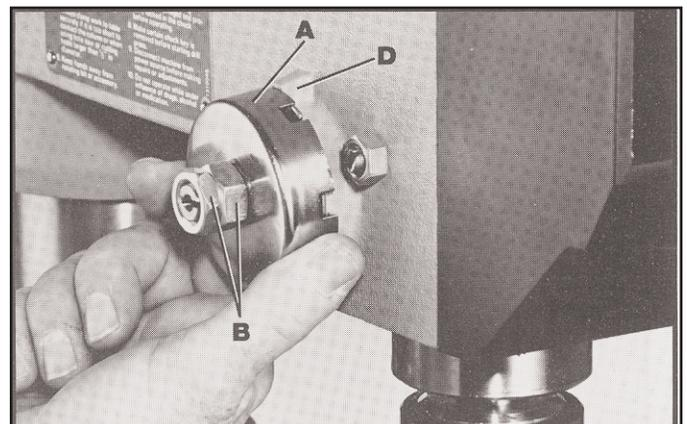

Fig. 25
3. While firmly holding spring housing (A) Fig. 25, pull out housing and rotate it until the boss (D) is engaged with the next notch on the housing. Turn the housing counterclockwise to increase and clockwise to decrease spring tension. Then tighten the two nuts (B) to hold the housing in place.
**IMPORTANT:** Inside nut (B) should not contact spring housing (A) when tight.